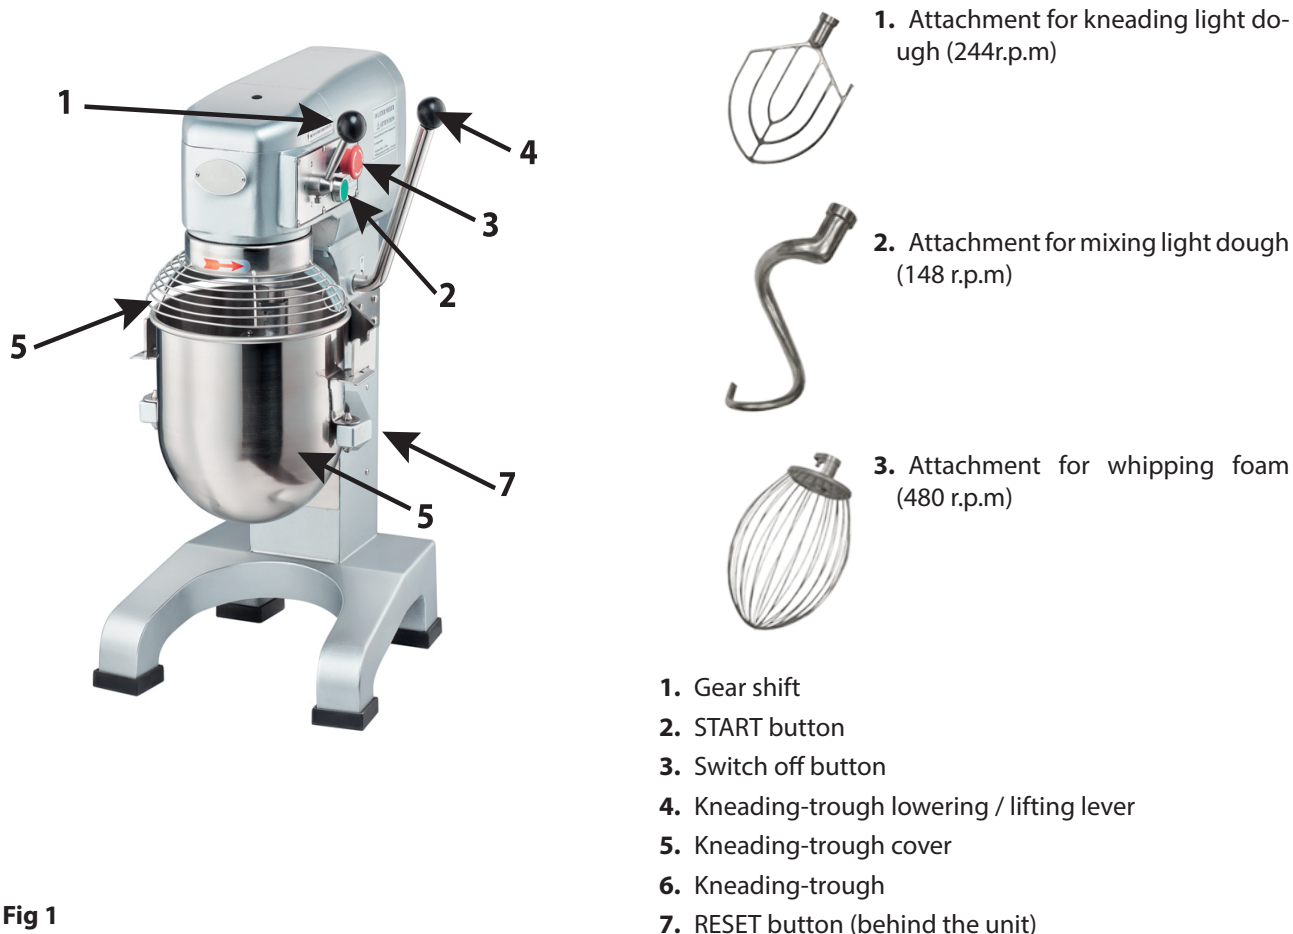

Fig 1
4. Use the lever (4 fig. 1) to lift the kneading-trough up to the maximum level.
5. Close the kneading-trough cover (5 fig. 1).
6. Make sure that the STOP button (3 fig. 1) is not pressed.
7. Use the gear shift (1 fig. 1) to set the appropriate gear:
8. Press the START button (2 fig. 1).
9. When the dough reaches suitable consistency, turn off the appliance using the switch off button (3 fig. 1).
10. Lower the kneading-trough using the lever (4 fig 1).
In the event of sudden stoppage of the appliance, turn it off and reduce the amount of dough to be mixed. Wait for about 1 minute and press the RESET button (7 fig. 1), then switch on the mixer again. If the appliance stops once more, reduce the amount of dough again.